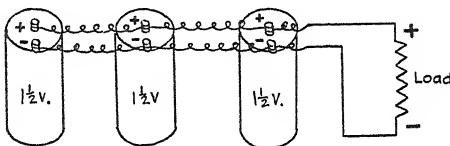

FIG. 63. Parallel connections for greatest current.
73. Connections for Most Current. Paralleled batteries or generators produce the greatest current. Figure 63 shows the
In a parallel battery connection, always be sure to connect all + terminals together, and all — terminals together, as shown in Figure 63.
In a parallel battery circuit, the voltage of all batteries must be the same. For example, in the circuit in Figure 63, the total voltage on the load will be the voltage of any individual cell, which is about 1.5 volts.